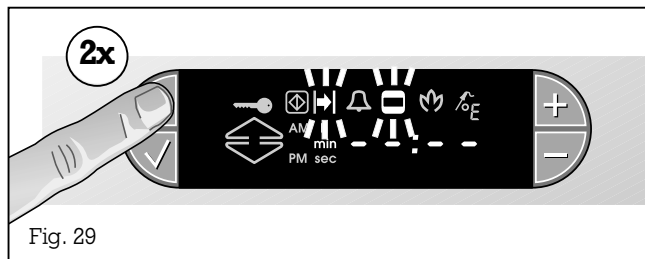

Fig. 29
- Press the ☹️ (Timer) key twice. The ⏸️ (End) and ⏱️ (Cooking time) symbols flash (Fig. 29).